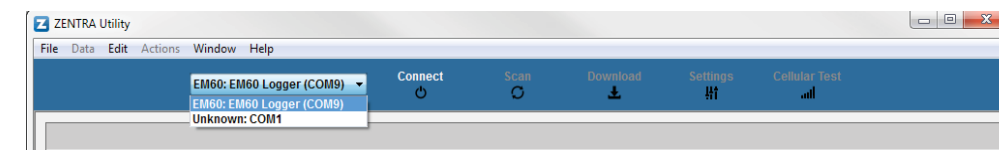
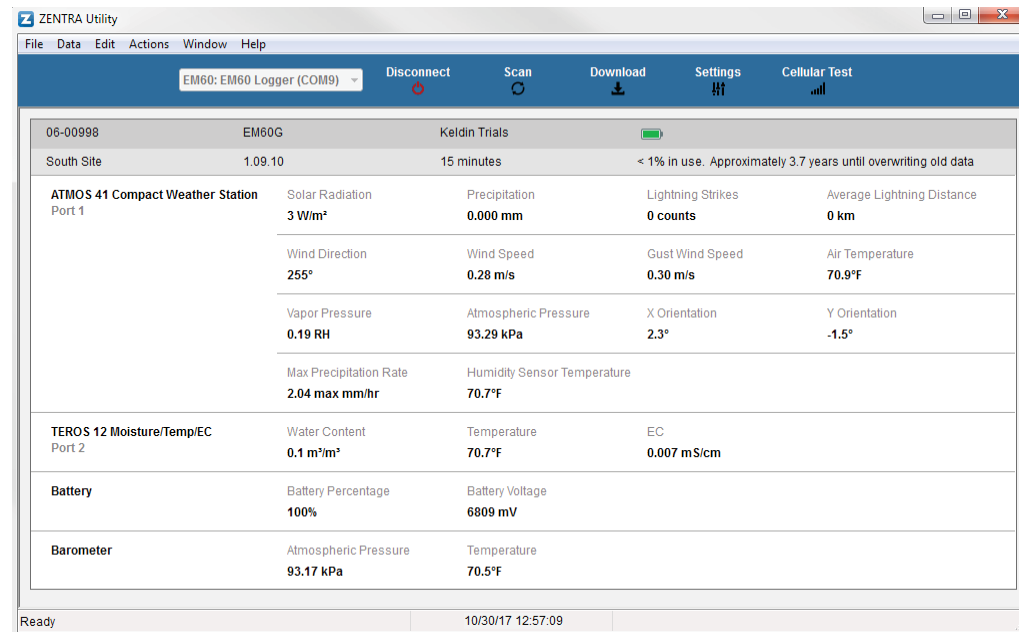

Figure 2 COM port dropdown
Figure 3 EM60 connected and showing instantaneous measurements
3. On the ZENTRA Utility main screen, select the appropriate COM port from the dropdown menu (Figure 2).
4. Click the Connect button next to the COM port dropdown menu (Figure 2). Once successfully connected, ZENTRA Utility displays the instantaneous sensor measurements from the EM60 (Figure 3).